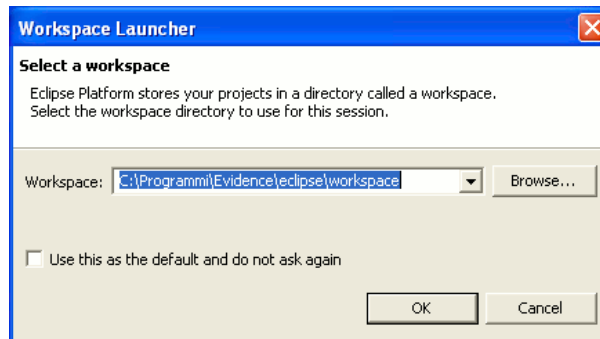

Figure 3.1: This screenshot shows the dialog box for the choice of the current workspace directory.
2. A dialog box will appear, asking to choose the right workspace (see Figure 3.1). Leave the default workpackage directory as it is, and proceed by pressing “OK”.